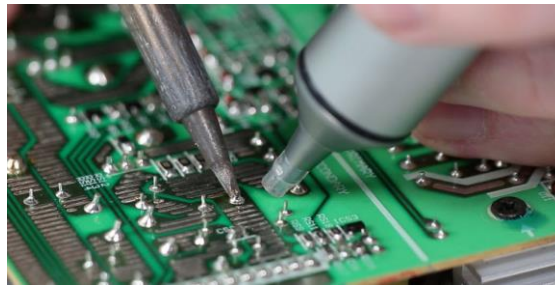

Figure 10.2 De-Soldering operation
1. Perform desoldering operation from a circuit board as shown in Figure 10.2.